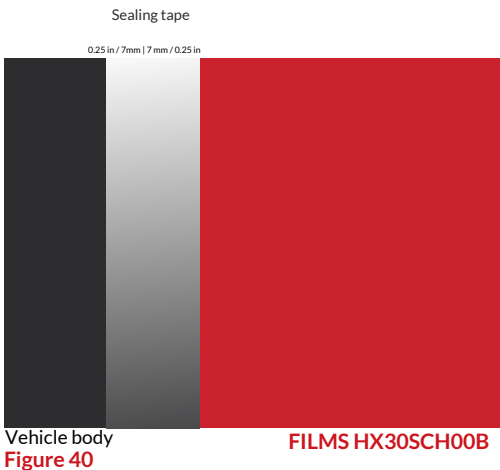

Figure 40
- › Apply the strip by overlapping it by approximately 7 mm (¼ in.) over the body work and 7 mm (¼ in.) over the Super Chrome film. (FIG. 40)